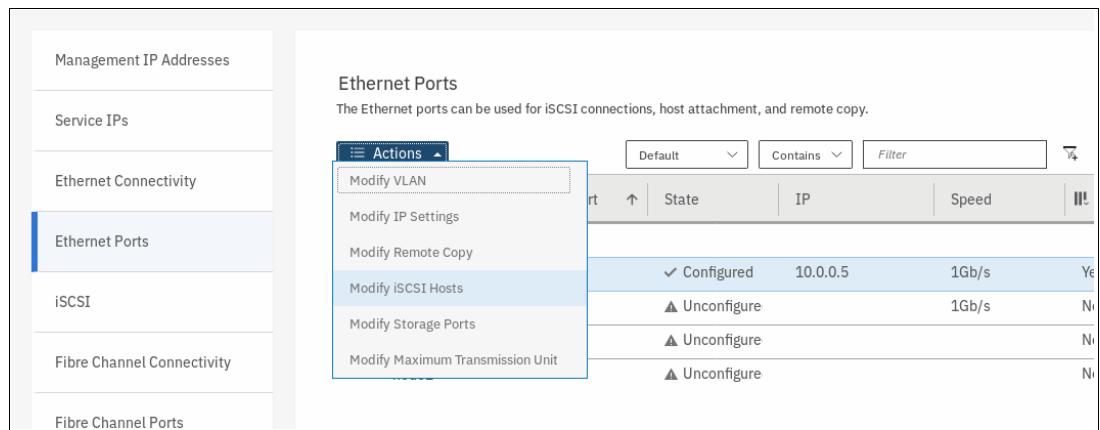

Figure 5-62 Actions menu to modify iSCSI hosts
- Under Actions, you can select whether IPV4, IPV6, or both types of hosts are enabled for iSCSI traffic (see Figure 5-62).